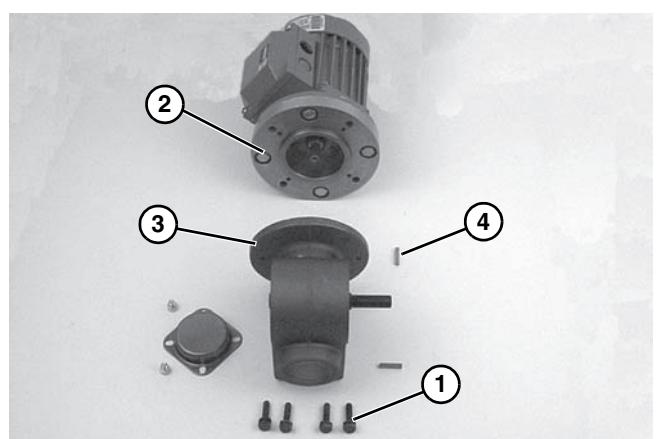

Figure 36
11. With key (Figure 36, item 4) in keyway, slide motor (Figure 36, item 2) and gear reducer (Figure 36, item 3) together. Install bolts (Figure 36, item 1) and tighten.